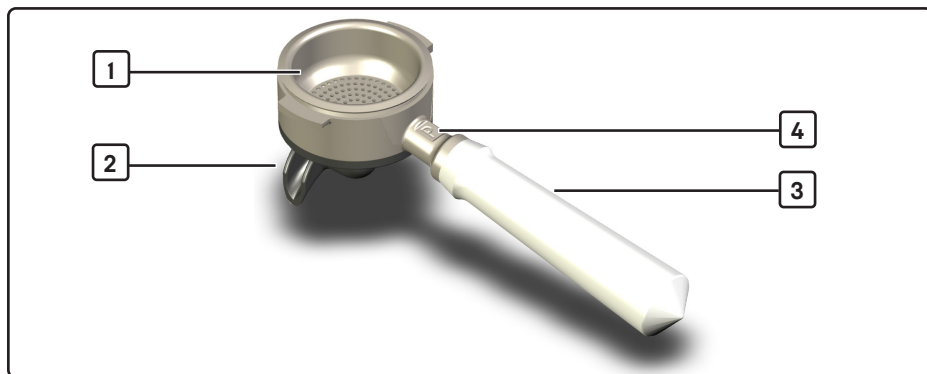

Fig. 6 Portafilter with two-cup filter and silicone attachment
1. Hold the portafilter with the P logo [4, Fig. 6] facing up.
2. Use both hands to press the silicone attachment [2, Fig. 6] into the portafilter from below until it has fully latched in place.
1. With one hand, hold the portafilter with the P logo [4, Fig. 6] facing up.
2. Use the other hand to insert the relevant filter [1, Fig. 6] into the portafilter.